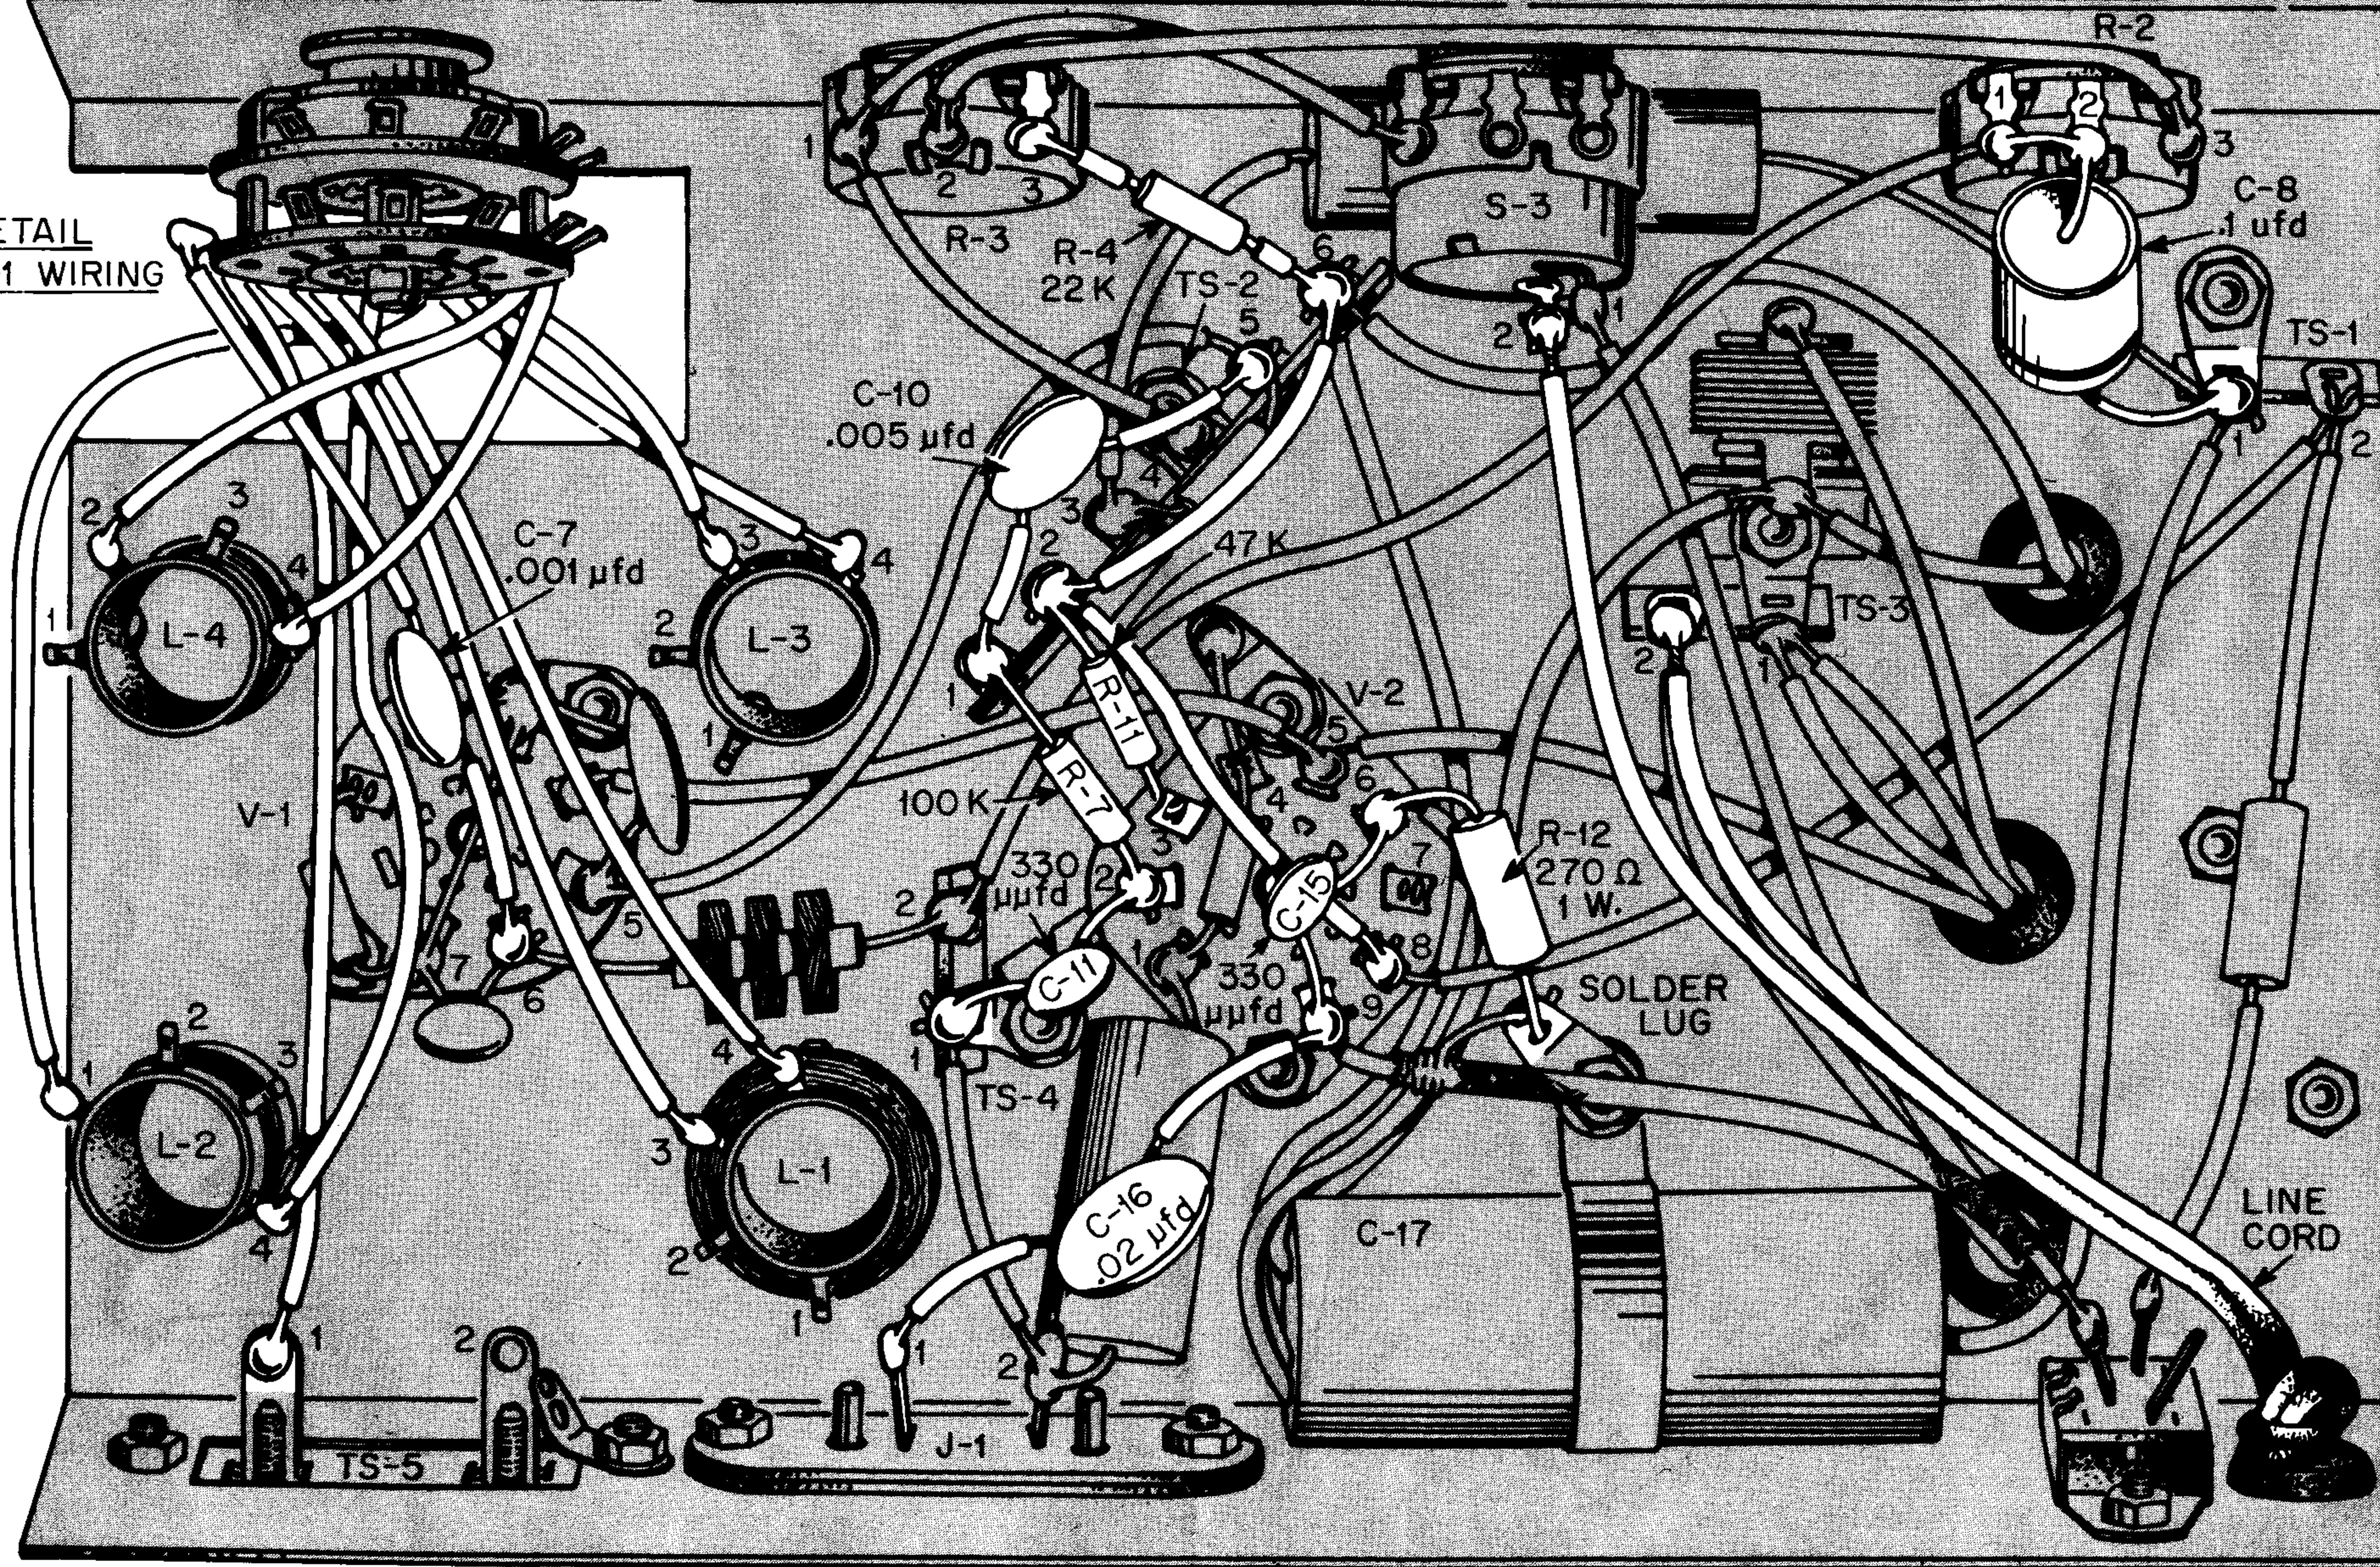

FIGURE 7. THIRD WIRING VIEW
- ☐ Solder one end of a 4-1/8" white-black wire to terminal 18 of S-1. Route as shown in Figure 7. Solder the other end to terminal 1 of L-2.